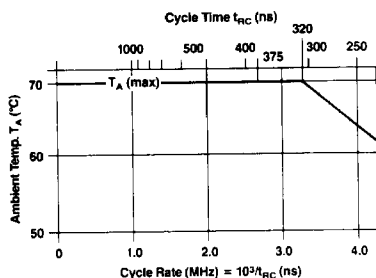
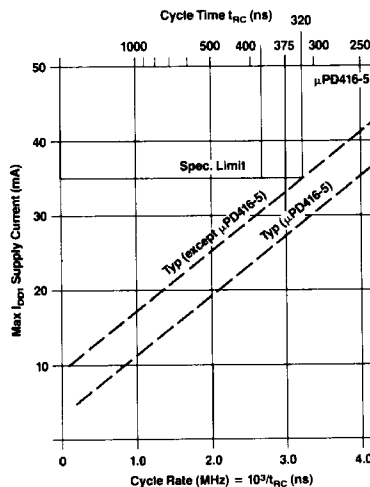

Figure 1. Maximum Ambient Temperature versus Cycle Rate for Extended Frequency Operation
Figure 2. Maximum I_{DD1} versus Cycle Rate for Device Operation at Extended Frequencies
- Notes: ① T_A is specified here for operation at frequencies to t_{RC} ≥ t_{RC}(min). Operation at higher cycle rates with reduced ambient temperatures and high power dissipation is permissible, provided AC operating parameters are met. See Figure 1 for derating curve.
② All voltages referenced to GND.
③ Output voltage will swing from GND to V_{CC} when activated with no current loading. For purposes of maintaining data in standby mode, V_{CC} may be reduced to GND without affecting refresh operations or data retention. However, the V_{OH}(min) specification is not guaranteed in this mode.
④ I_{DD1}, I_{DD3}, and I_{DD4} depend on cycle rate. See Figures 2, 3 and 4 for I_{DD} limits at other cycle rates.
⑤ I_{CC1} and I_{CC4} depend upon output loading. During readout of high-level data V_{CC} is connected through a low impedance (135Ω typ) to data-out. At all other times I_{CC} consists of leakage currents only.